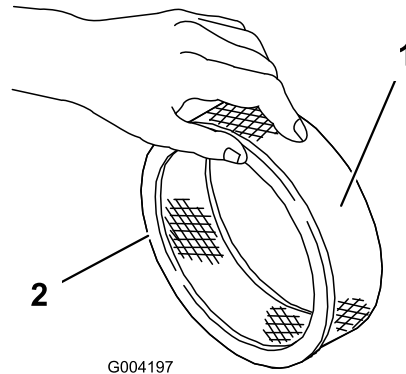

Figure 19
- Lightly tap the paper filter on a flat surface to remove dust and dirt (Figure 19).
- Carefully slide the foam pre-filter onto the paper filter (Figure 19).